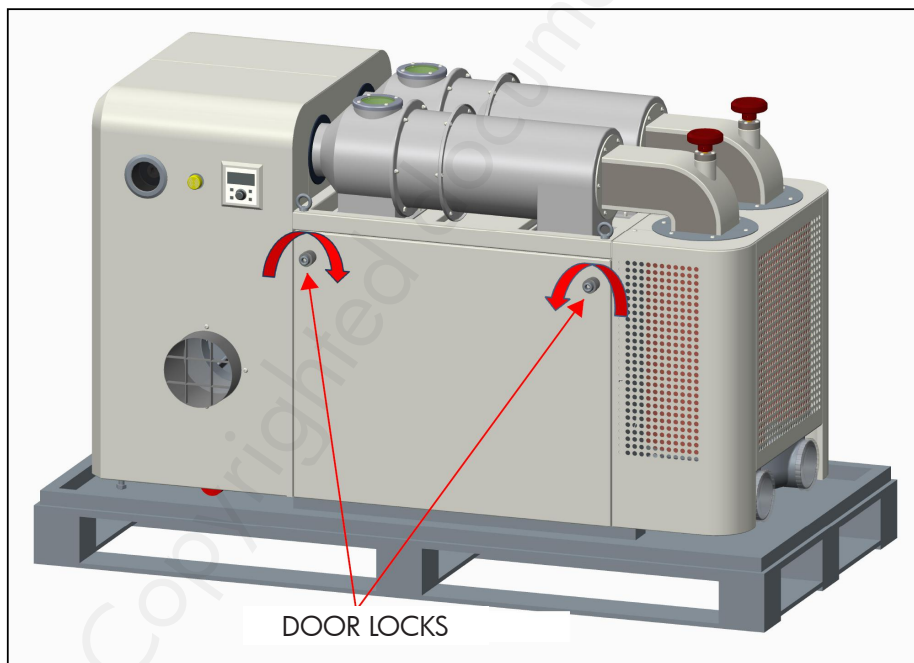
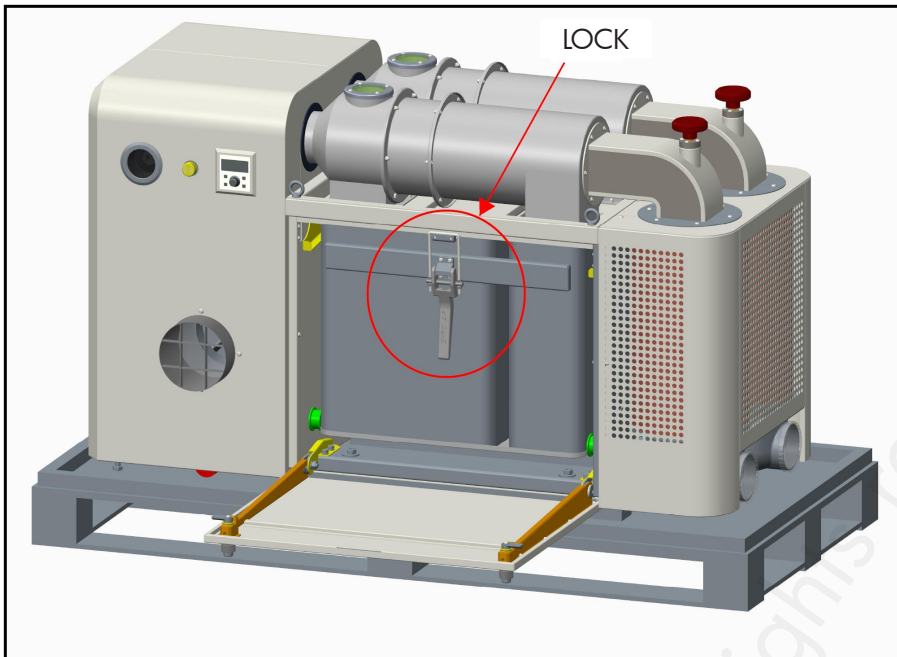

Figure 5
Figure 6
1. Remove the package box, keep the base unit on the pallet. See figure 5.
2. Rotate the knobs as arrow indicated (see figure 6) to open the door. Then release the dust bin (see figure 6), you can slide the dust bin out.
Rotate the knobs as the arrow indicates (see figure 5) to open the door. Release the dust bin (see figure 6), you can slide the dust bin out.